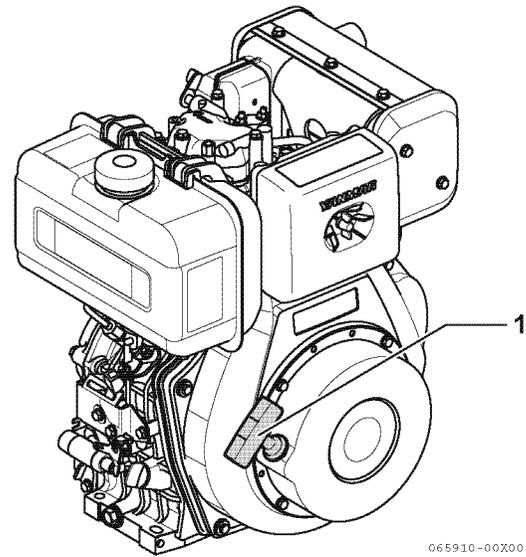

Figure 3
1. Grasp the recoil starter handle (1, **Figure 3**).
5. Grasp the recoil starter handle (1, **Figure 3**).